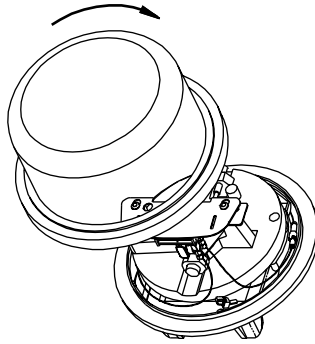

Figure 32. Replacing Cover
9. Replace the cover by screwing it back on in a clockwise direction. Ensure all wires are clear of operational parts. See Figure 32.